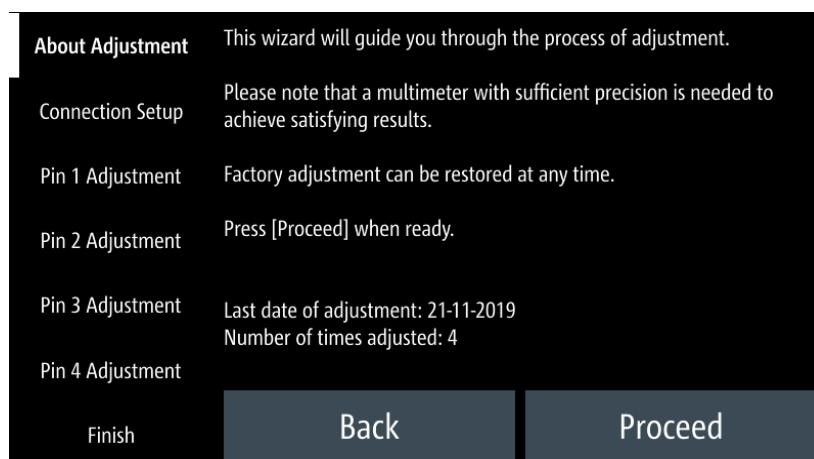

Figure 6-38: Analog in adjustment wizard
- Follow the on-screen instructions displayed in the Figure 6-38.